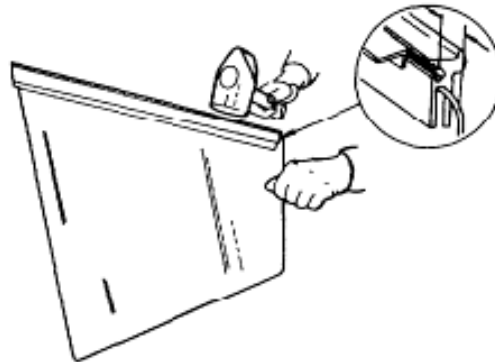

Figure 188 Draught Rail Installation
- n. Align the draught rail, sealing rubber and glass (Figure 188).